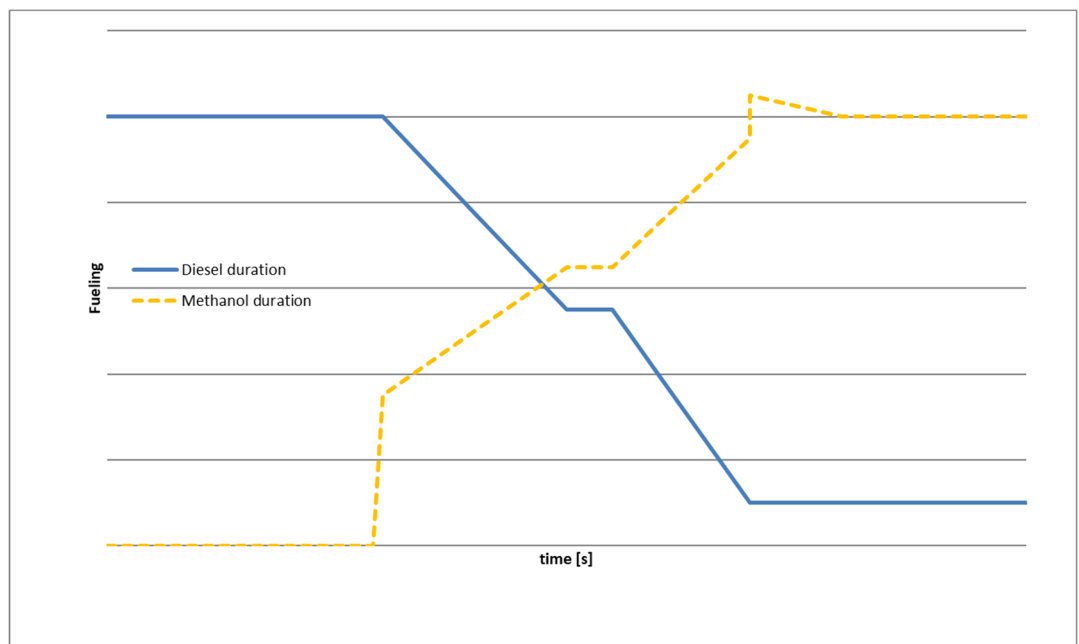

Figure 5.9 Fuel mode changeover from diesel to methanol
- ✓ Changeover takes approx. 10 min. including methanol leakage test and it depends on pipe system. (Refer to Figure 5.9).